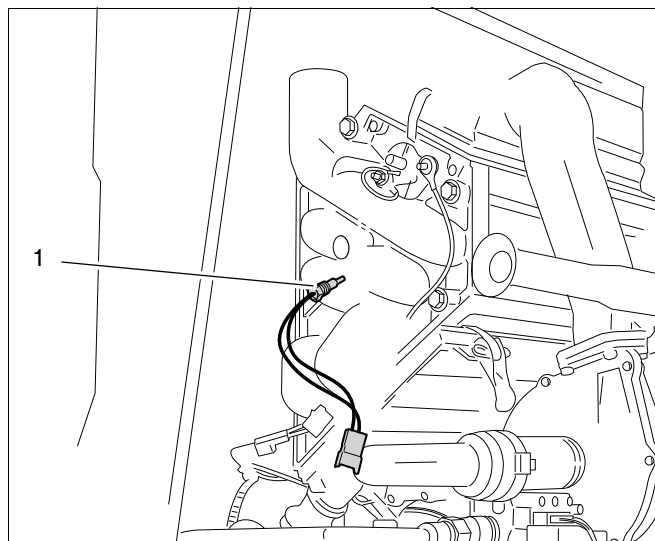

fig. 17 Replacing the safety sensor
Safety sensor see fig. 17, pos. 1.